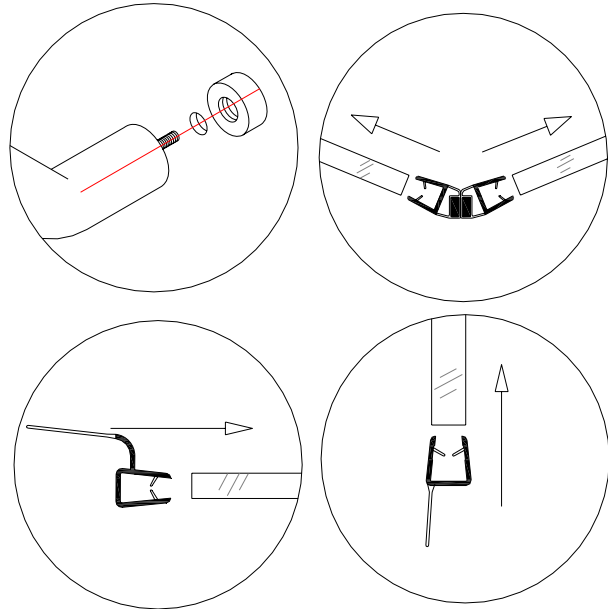

Fig 6
9. Push on the **Magnetic strips (8)** on the glass door and the stationary panel, the **bottom anti-water strip (9)** and the **Flanged anti-water strip (10)** to seal between the glass door and the pivoted stationary glass (fig 6).